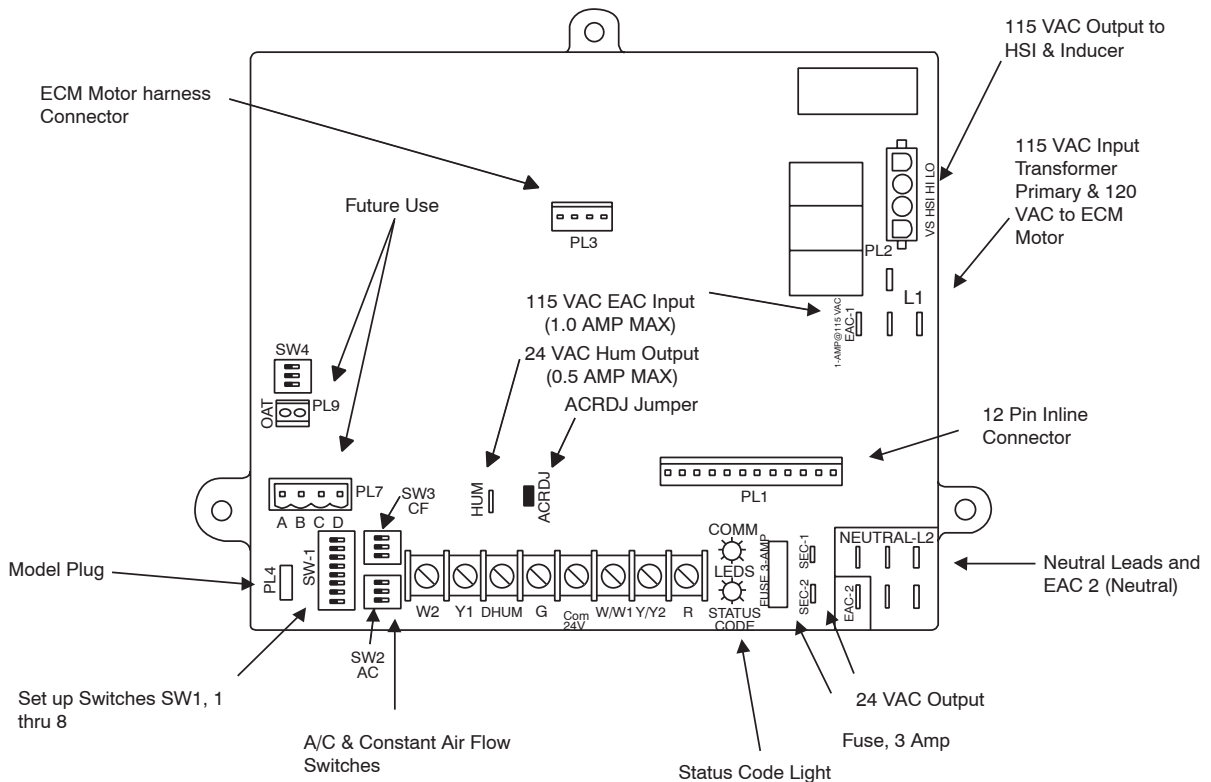

Fig. 30 - Variable Speed Furnace Control-ECM Blower Motor
- b. For furnaces with ECM blower motors, turn switch SW1-2 ON to lock the furnace in low-heat. (See Fig. 30.)
(2.) For furnaces with ECM blower motors, turn switch SW1-2 ON to lock the furnace in low heat. (See Fig. 30.)